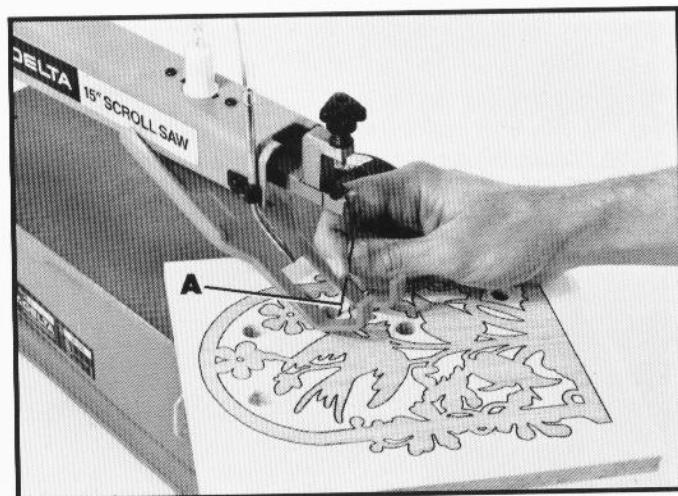

Fig. 30
5. Place the workpiece on the table with one of the drilled holes over the opening in the saw table and insert the blade (A) Fig. 30 (teeth pointing down) through the hole in the workpiece and through the opening in the table as shown in Fig. 30. Assemble the blade into the groove in the lower rocker arm.